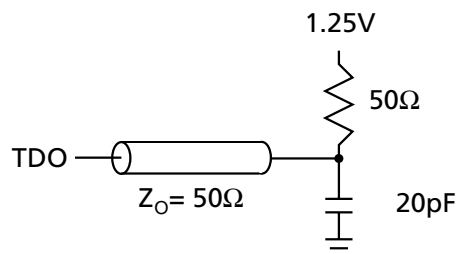

Figure 4
2. Test conditions are specified using the load in Figure 4.